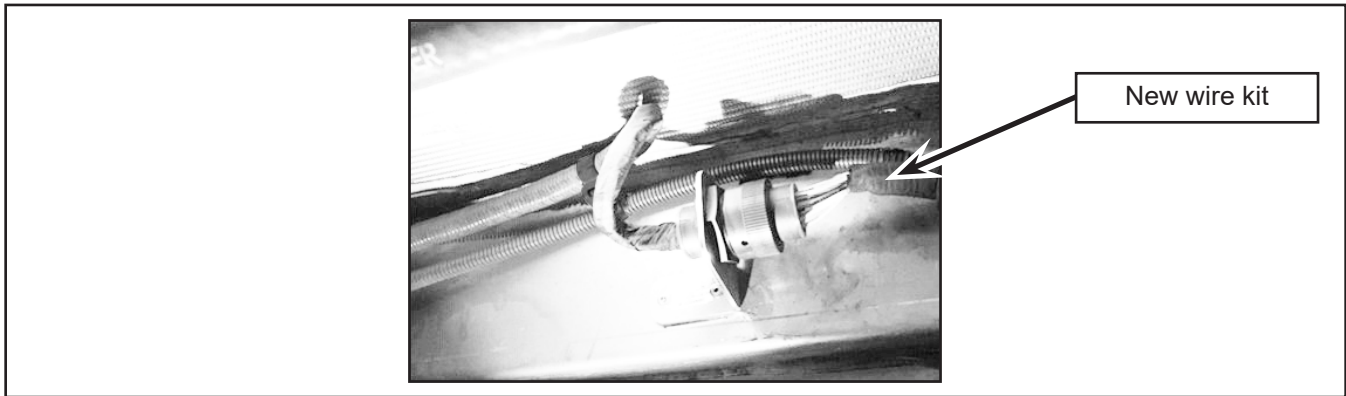

Figure 8 - Connect New Wire Kit
- 1.19. Connect the new wire kit N632000763 to the connector installed on the connector bracket (Figure 8).